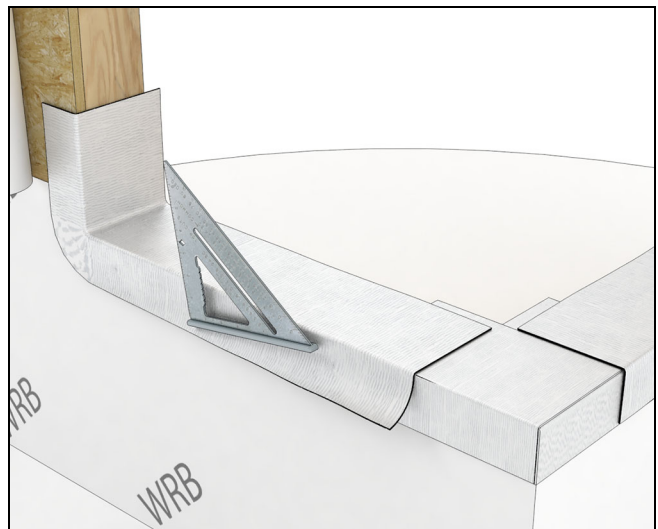

Figure 24
8. Fold the flexible flashing down over the outside. Smooth out the flashing with the edge of a speed square or other tool to ensure there are no bubbles or voids. See Figure 24.